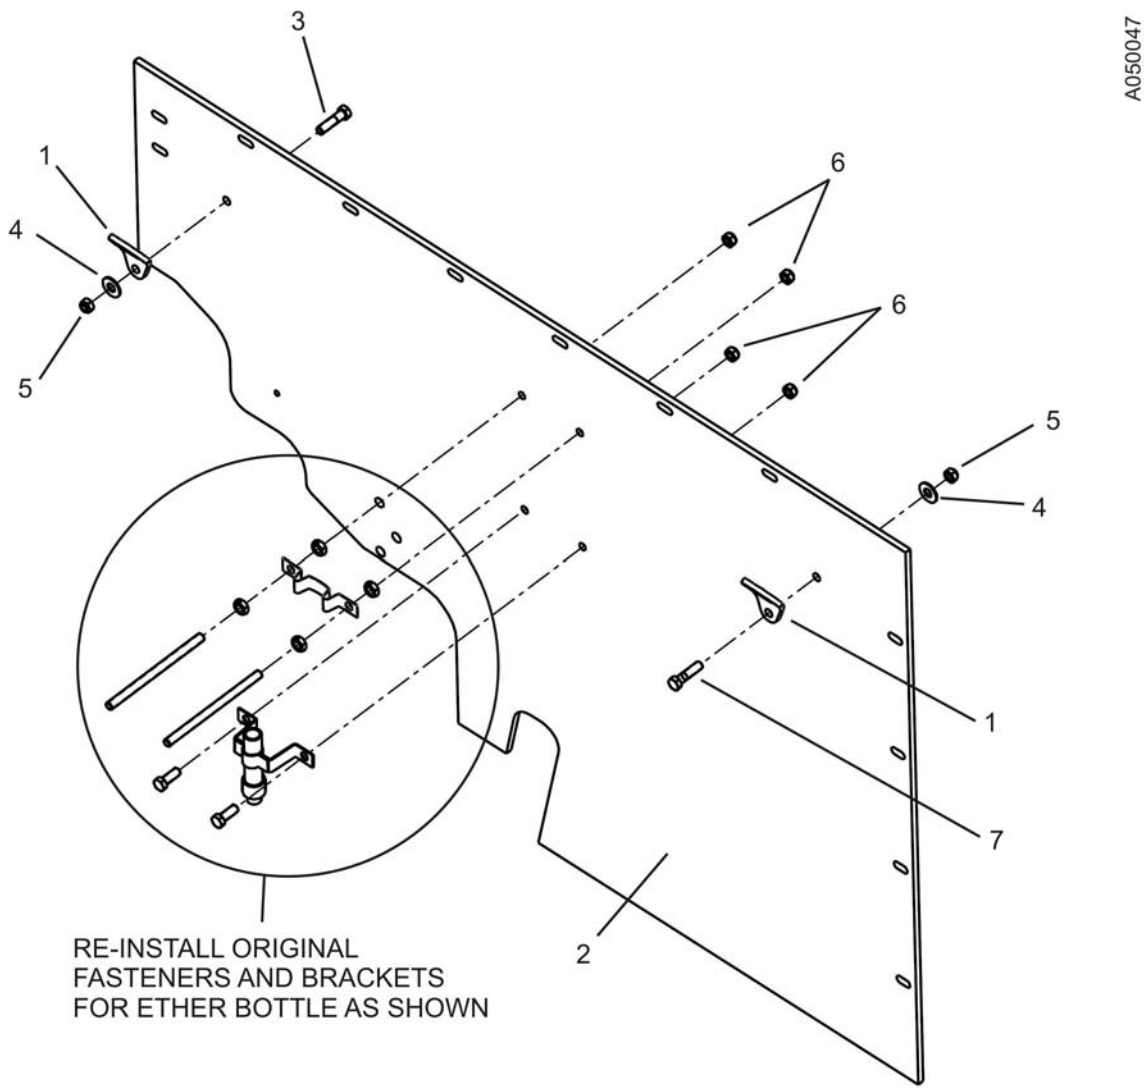

Figure 3-56. Left Firewall Panel Pre-Assembly.
1. Pre-assemble left firewall panel as follows (see Figure 3-56):
- a. Install two lift brackets (1) onto left firewall panel (2) and secure the inboard side with one bolt (3), flat washer (4), and locknut (5) and the outboard side with one bolt (7), flat washer (4), and locknut (5). Torque locknuts to 35 lb-ft.
- b. Re-install ether bottle brackets and fasteners as shown. Use two new locknuts (6) to hold the all-threads on the backside of the firewall armor panel.